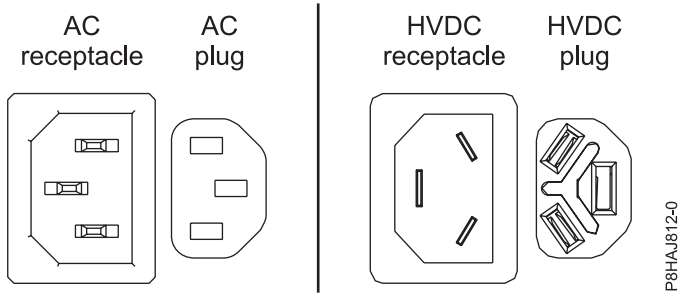
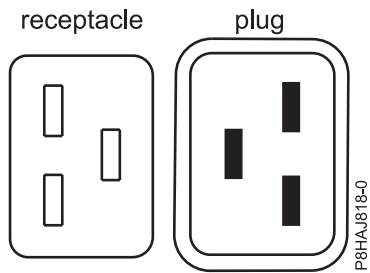
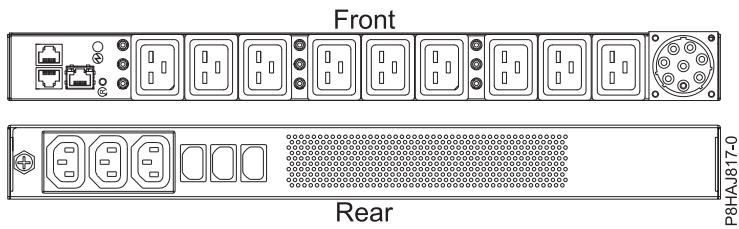

Figure 25. AC and HVDC connectors
Figure 26. Connectors for the 8408-44E system
Figure 27. PDU for the 8408-44E system
Figure 25 on page 39 shows the supported alternate current (AC) and high voltage direct current (HVDC) connectors. Figure 26 on page 39 and Figure 27 on page 39 show the supported connectors and power distribution unit (PDU) for 8408-44E.